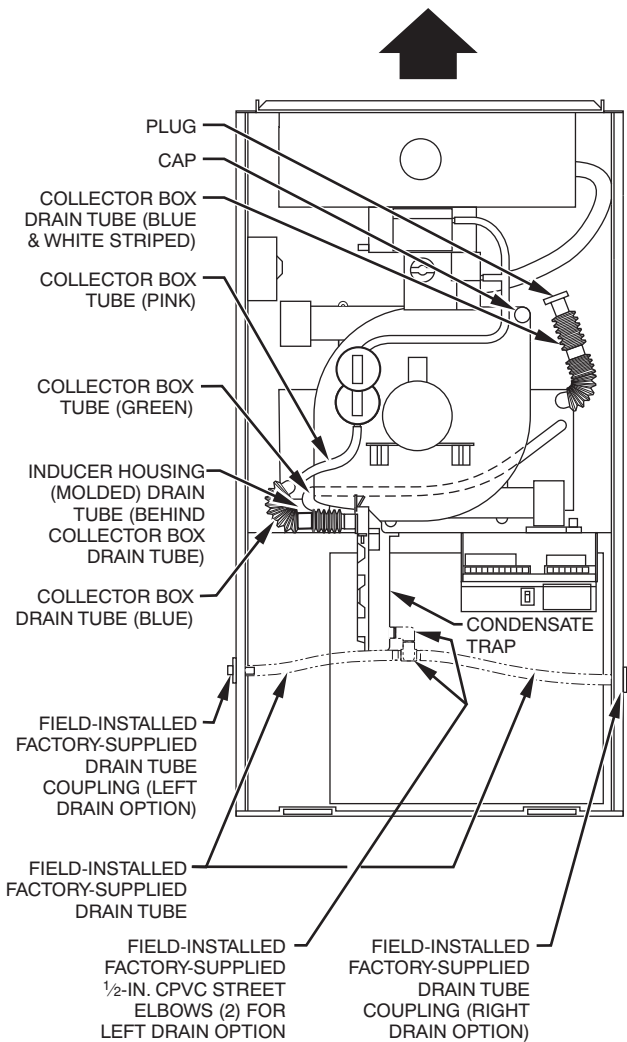

**Fig. 5 - Factory-Shipped Upflow Tube Configuration
5. If condensate trap is located in left- or right-hand side of furnace casing, proceed to item 6, otherwise remove trap and tubing as described below (See Fig. 5):
b. Connect condensate trap drain tubes. See Fig. 5 or tubing diagram on main furnace door for proper tube location.